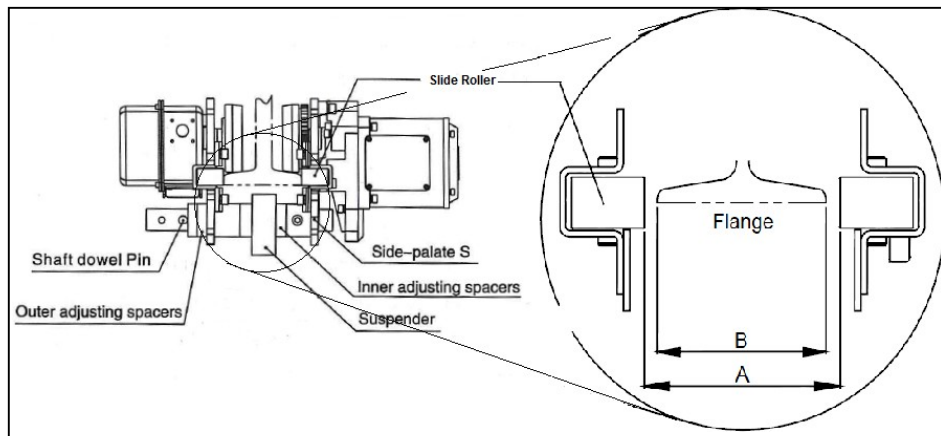

Figure 4.2.1.7
7. Make sure both side plates are spread fully outward and measure dimension "A". Dimension "A" must be $5/32"$ (4 mm) greater than "B" (refer to Figure 4.2.1.7).